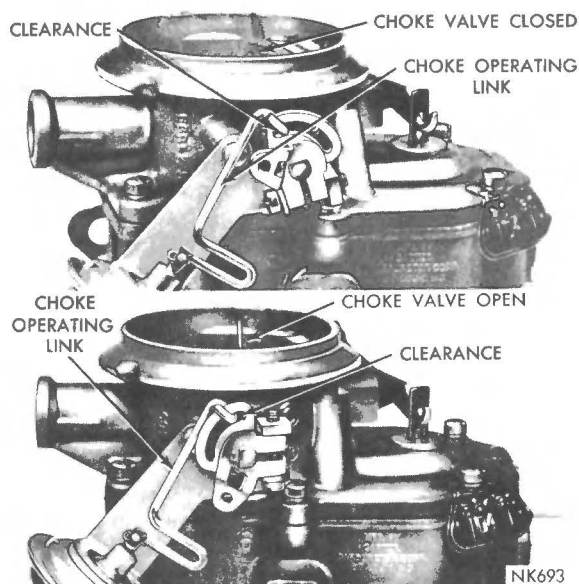

Fig. 15 Choke Operating Link Clearances
(8) Reinstall the vacuum hose to the diaphragm and with no vacuum applied to the diaphragm. Some clearance should exist between the choke operating link and the choke lever slot, in both the open and closed choke valve positions, (as shown in Fig. 15). This clearance is necessary to allow the choke valve to close for starting as well as fully open after the engine reaches the normal operating temperature.